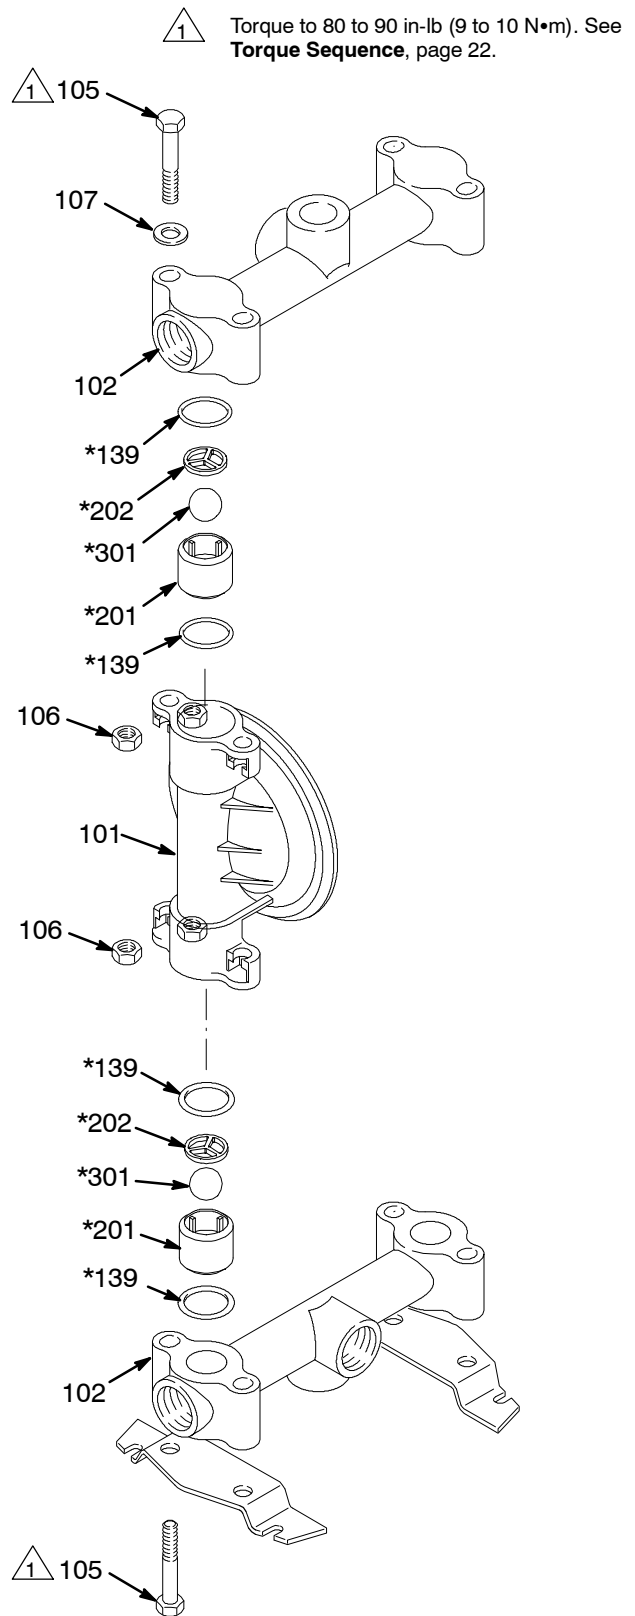

Fig. 9
3. Unscrew the four bolts (105), washers (107), and nuts (106) holding the top manifold (102) to the covers (101). Lift the manifold off the pump. See Fig. 9.
4. Remove the outer o-ring (139*), ball stop (202*), ball (301*), ball guide (201*), and inner o-ring (139*) from each of the covers (101).
5. Turn the pump over. Remove the bolts (105), nuts (106), feet (108) and bottom manifold (102).
6. Remove the outer o-ring (139*), ball guide (201*), ball (301*), ball stop (202*), and inner o-ring (139*) from each of the covers (101).
8. Reassemble. Follow all notes in Fig. 9. Be sure the ball checks are assembled **exactly** as shown.
NOTE: Make sure all the check valve parts stay in place. See Fig. 9 on page 16.
10. Make sure all the check valve parts are in place. See Fig. 9 on page 16.
11. Install the manifolds (102), and torque the manifold bolts (105) to 80 to 90 in-lb (9 to 10 N•m). See **Torque Sequence**, page 22.